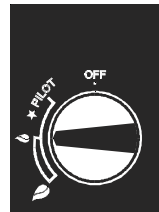

Figure 4 - Minimum Position
6. Once the pilot is established, the main burner can be operated by turning the control knob anti-clockwise. The preset minimum is found with the arrow in the 9 o'clock position as shown in **Figure 4**.